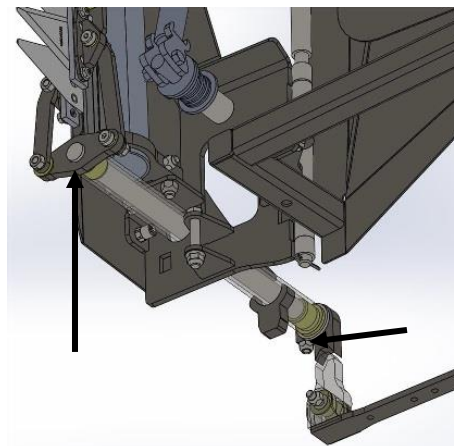

Figure 226
2. The drive goes through an activation arm and is connected to two arms driving the knives. Figure 226